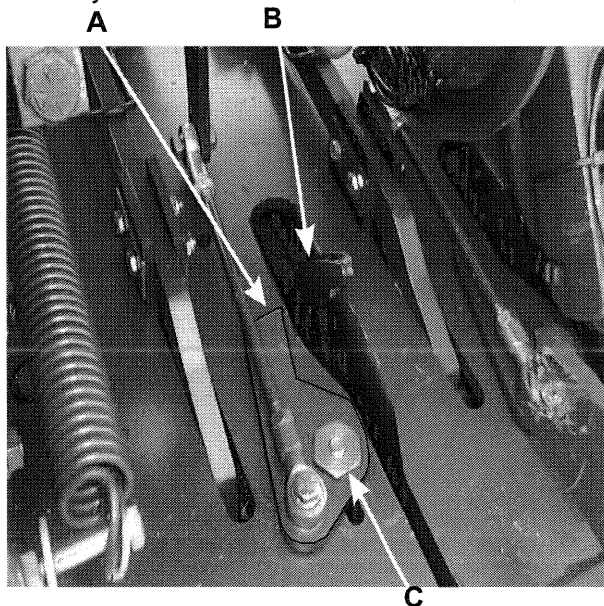

Fig.20
A. Trip the knotter and turn the flywheel clockwise until the point of the twine finger "A" is just passing the inside edge of the needle "B". The point of the twine finger should clear the needle by $1/8"$ (3 mm), *Fig.20*
C. After adjusting the twine fingers, turn the flywheel clockwise until the twine fingers are in the returned position. Check to see that there is $1/8"$ (3 mm) from the tips of the twine fingers to the edge of the needle slots "A," *Fig.20*